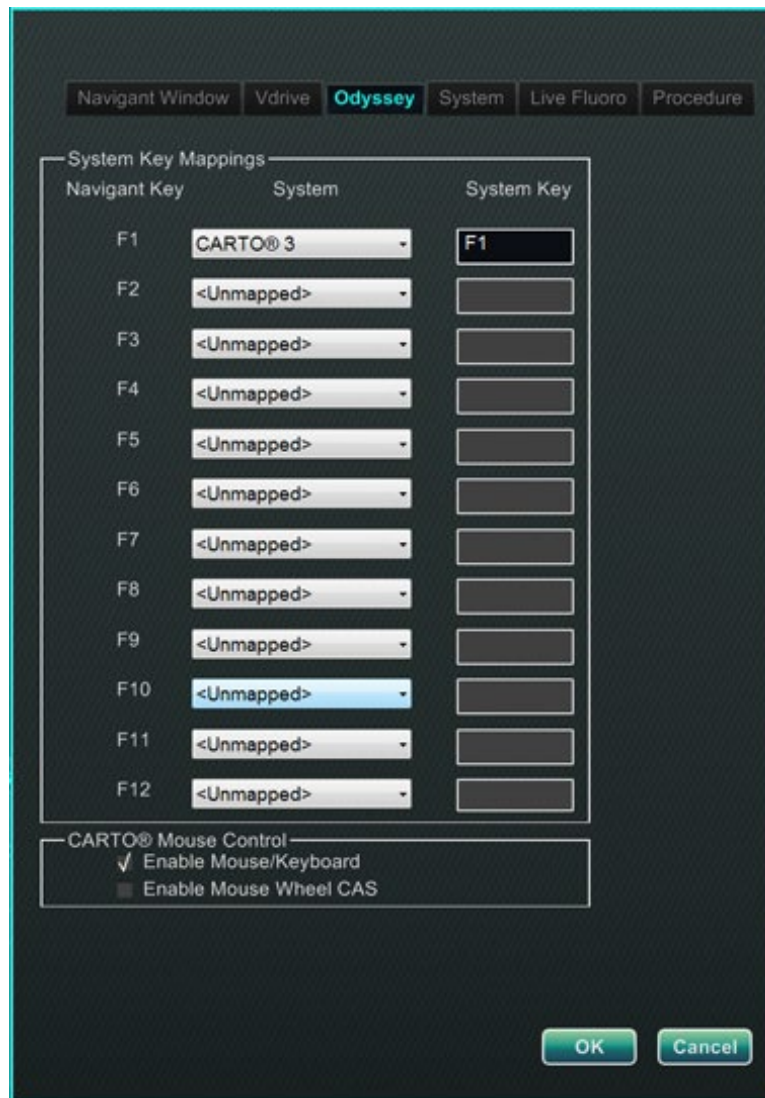

Figure 25. Odyssey System Key Mappings dialog in Navigant system
3. Click the *Odyssey* tab to display the System Key Mappings dialog (**Figure 25**).
- For the specific *Navigant* function key, click the corresponding **System** down arrow to display the list of video sources available. In the Figure 25 example, **CARTO 3** is selected.
- The corresponding **System Key** initially will be mapped to the same key as the *Navigant* Key. To change, place the cursor in the System Key textbox, and then type the video source's key whose behavior you wish to initiate with the specified *Navigant* function key. In the Figure 25 example, **F1** has been retained.
The *CARTO* Mouse Control box on the System Key Mappings dialog (Figure 25) contains two checkboxes to configure functionality within *CARTO* 3 procedures: